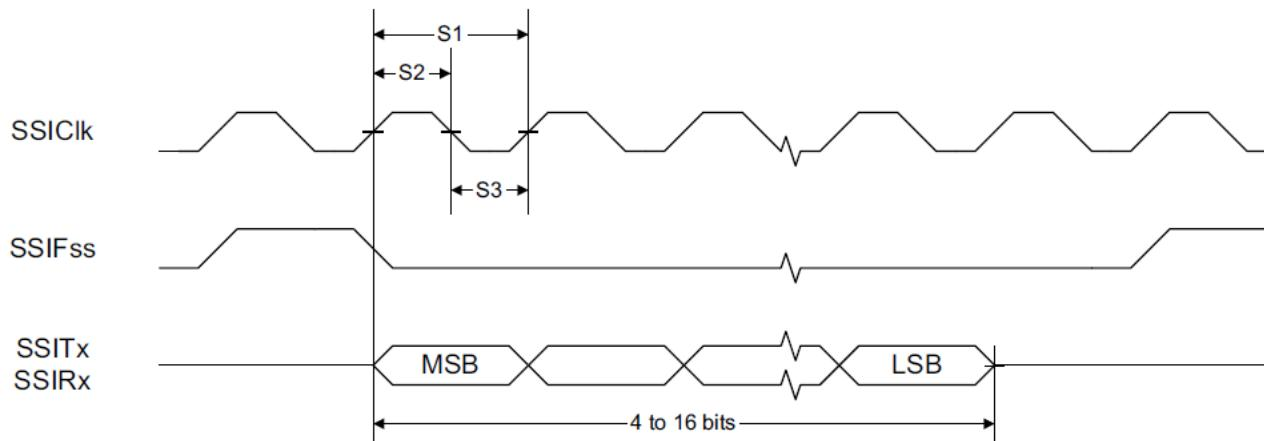
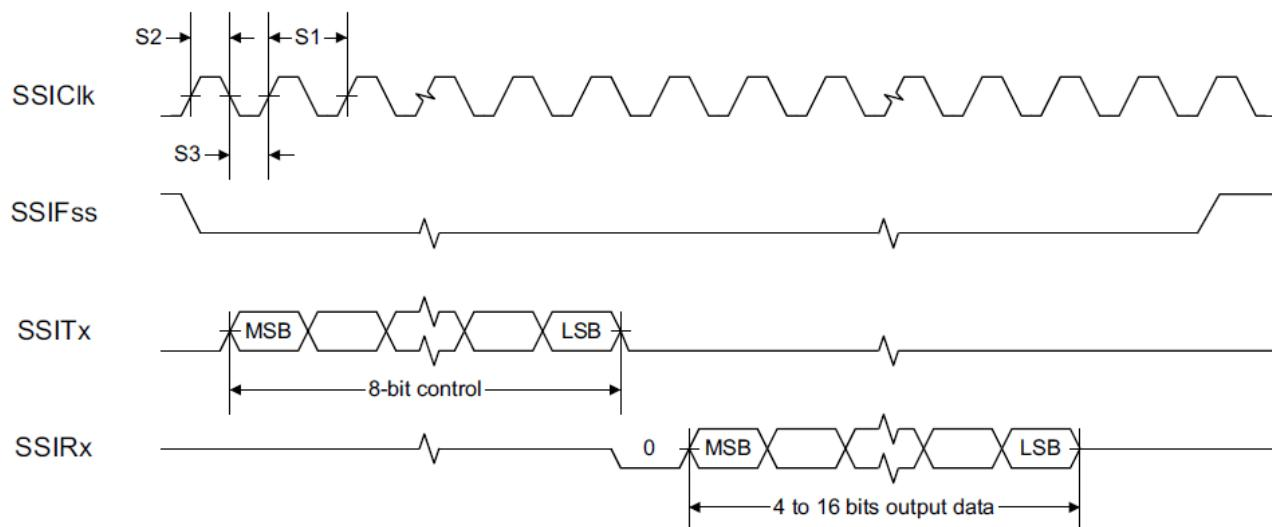
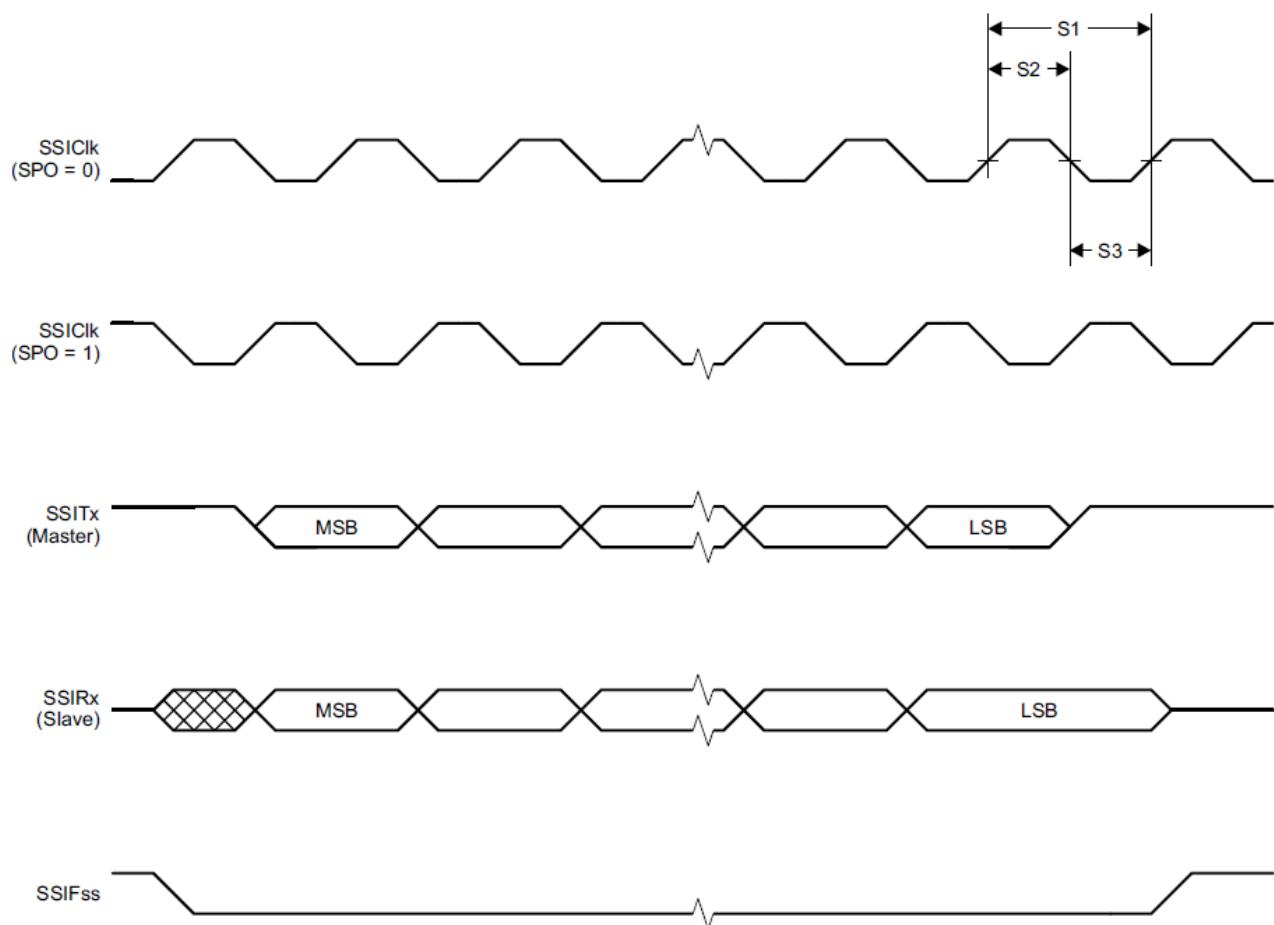

Figure 4-1. SSI Timing for TI Frame Format (FRF = 01), Single Transfer Timing Measurement
Figure 4-2. SSI Timing for MICROWIRE Frame Format (FRF = 10), Single Transfer
Figure 4-3. SSI Timing for SPI Frame Format (FRF = 00), With SPH = 1
- (1) Applications using RCOSC_LF as sleep timer must also consider the drift in frequency caused by a change in temperature.
- (2) T_A = -40°C to 85°C, VDDS = 1.8 V to 3.8 V, unless otherwise noted.
- (3) T_c = 25°C, V_{DDS} = 3.0 V, unless otherwise noted. Device operating as SLAVE. For SSI MASTER operation, see Section 4.22.
- (4) Refer to SSI timing diagrams Figure 4-1, Figure 4-2, and Figure 4-3.
(1) Device operating as MASTER. For SSI SLAVE operation, see Section 4.21.
(2) (4) Refer to SSI timing diagrams Figure 4-1, Figure 4-2, and Figure 4-3.